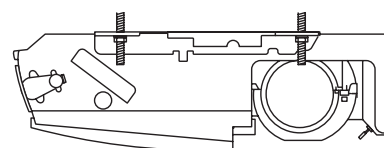

Fig. 2-66
- c) Tighten the 2 hexagonal nuts on each suspension bolt to suspend the indoor unit as shown in Fig. 2-66.